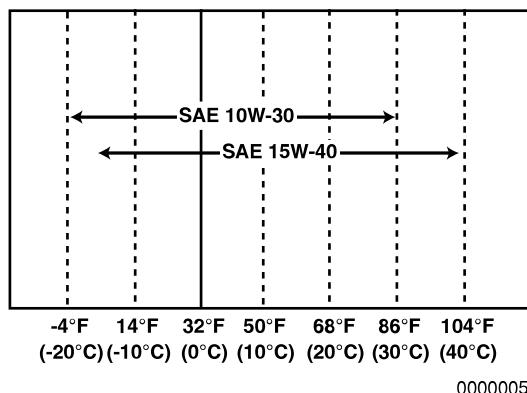

Figure 7
- Select the oil viscosity based on the ambient temperature where the engine is being operated. See the SAE Service Grade Viscosity Chart (Figure 7).